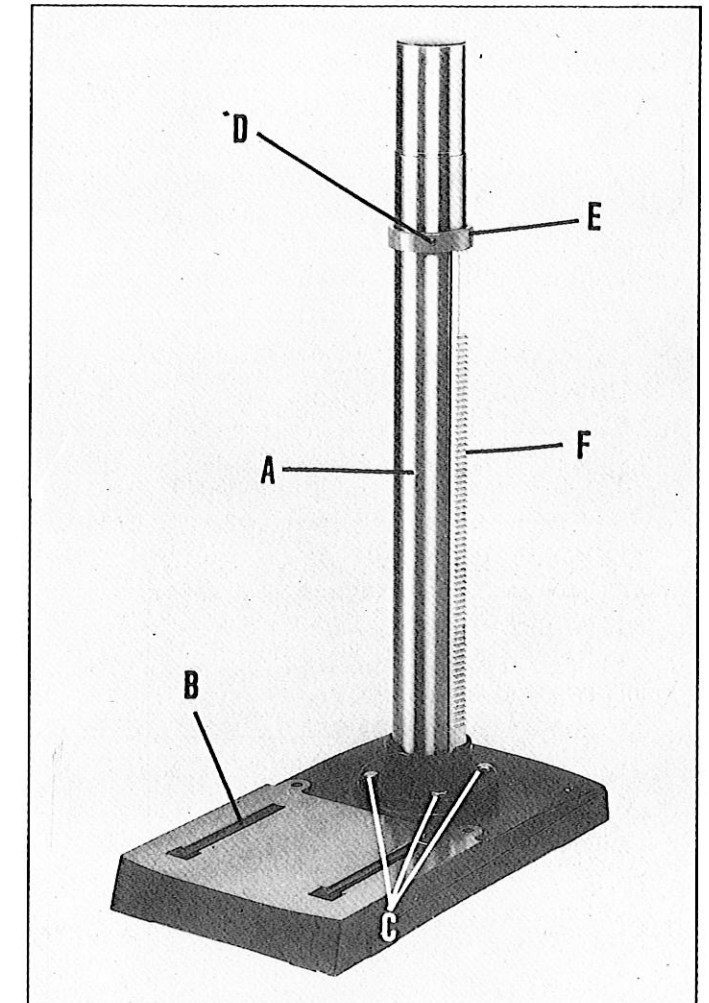

Fig 2
1. Assemble column (A) to the base (B) using the four screws (C) as shown in Fig. 2. Loosen set screw (D) and remove ring (E) and raising rack (F).